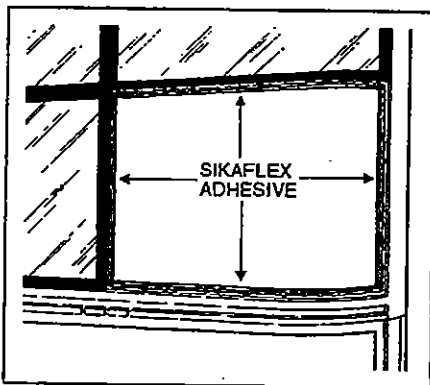

Figure 44
6. Apply 2 beads, parallel but not touching, of Sikaflex-255 FC polyurethane adhesive (Prévost part no 68-1092) on the sealing surface of the windshield opening. See figure 44.